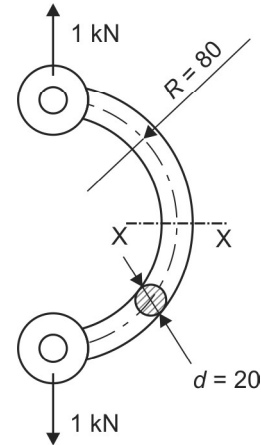

Fig. M1.19
34. A curved link mechanism made from a round steel bar is shown in Fig. M1.19. The material for the link is plain carbon steel 30C8 with an allowable yield strength of 400 MPa. Determine the factor of safety. (10 Marks)